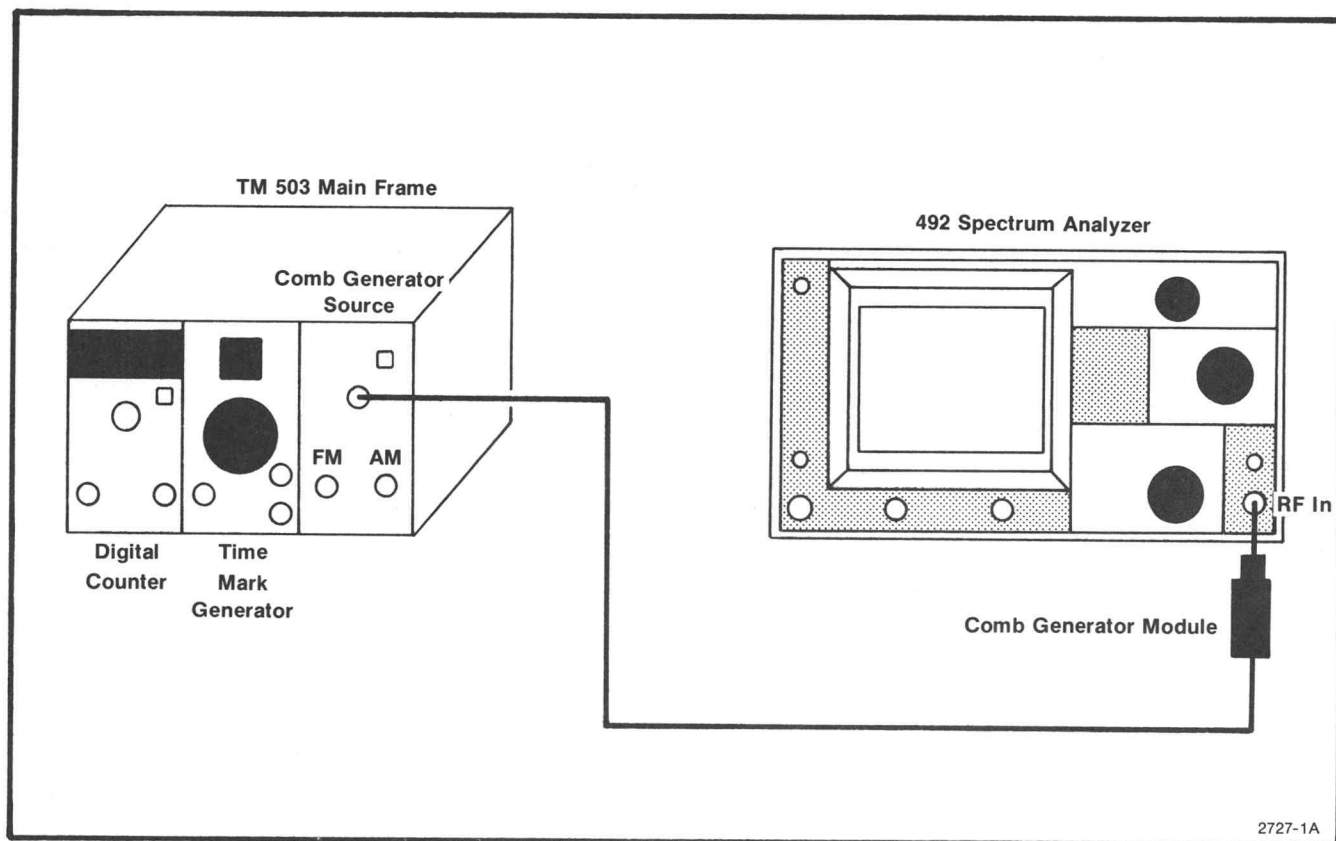

Fig. 3-1. Test equipment setup for checking frequency of the calibrator and the accuracy of the frequency readout.
a. Test equipment setup is shown in Fig. 3-1. Set the front panel controls as follows, then apply the comb generator output to the RF INPUT.